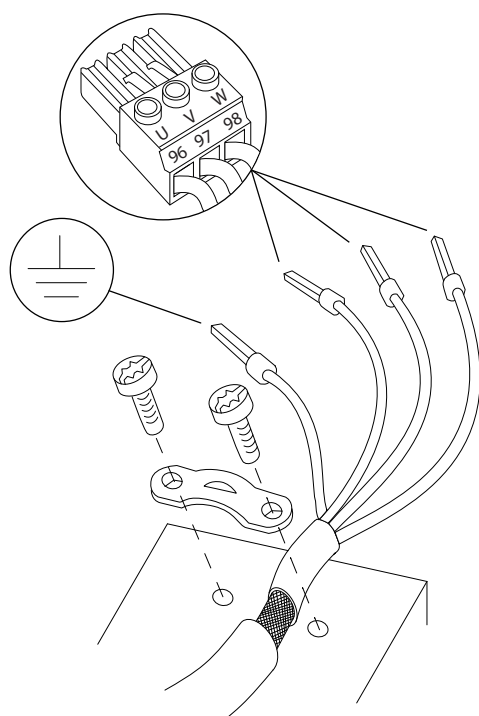

Figure 6.14 Motor Connection
4. Connect the three-phase motor wiring to terminals 96 (U), 97 (V), and 98 (W), see *Figure 6.14*.